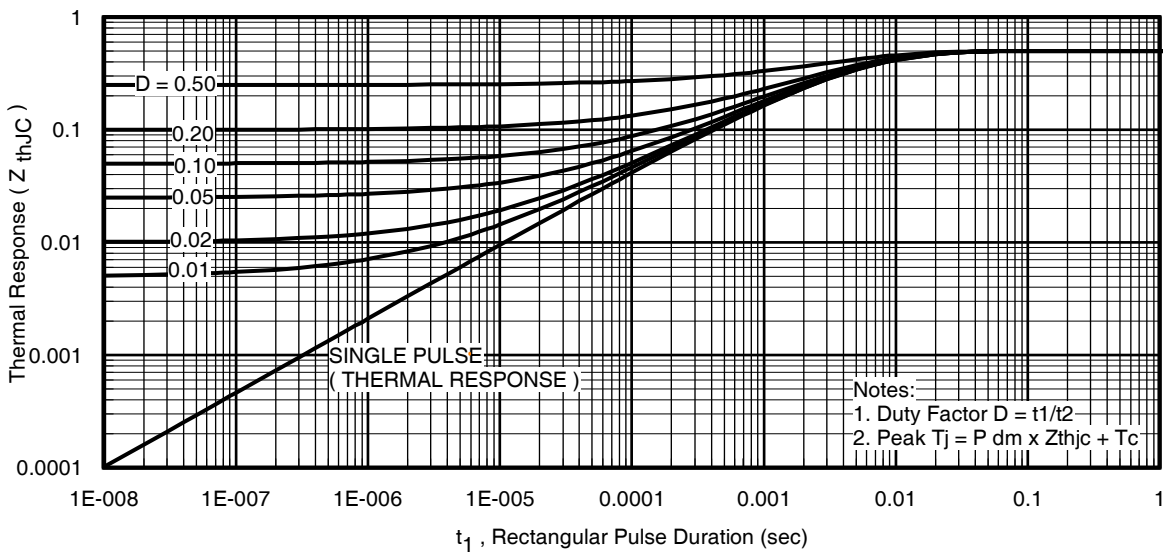
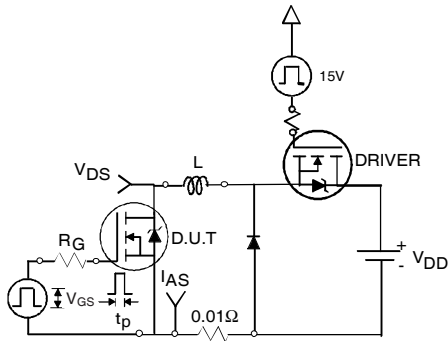

Fig 11. Maximum Effective Transient Thermal Impedance, Junction-to-Case
Fig 12a. Unclamped Inductive Test Circuit
- ① Repetitive rating; pulse width limited by max. junction temperature. (See fig. 11).
- ② Limited by TJmax; starting TJ = 25°C, L=0.24mH, RG = 25Ω, IAS = 75A, VGS = 10V. Part not recommended for use above this value.
- ③ ISD ≤ 75A, di/dt ≤ 220A/μs, VDD ≤ V(BR)DSS, TJ ≤ 175°C.
- ④ Pulse width ≤ 1.0ms; duty cycle ≤ 2%.
- ⑤ Coss eff. is a fixed capacitance that gives the same charging time as Coss while VDS is rising from 0 to 80% VDSS.
- ⑥ Limited by TJmax, see Fig.12a, 12b, 15, 16 for typical repetitive avalanche performance.
- ⑦ This value determined from sample failure population. 100% tested to this value in production.
- ⑧ This is applied to D2Pak, when mounted on 1" square PCB (FR-4 or G-10 Material). For recommended footprint and soldering techniques refer to application note #AN-994.
- ⑨ Max RDS(on) for D2Pak and TO-262 (SMD) devices.
- ⑩ TO-220 device will have an Rth value of 0.45°C/W.
3. Equation below based on circuit and waveforms shown in Figures 12a, 12b.
$Z_{thJC}(D, t_{av})$  = Transient thermal resistance, see figure 11)